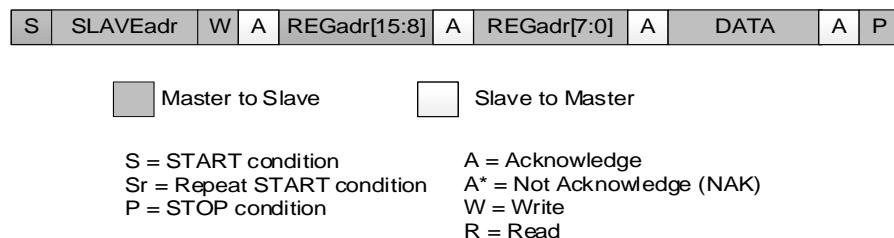

Figure 7: I²C Byte Write (SDA line)
The I²C bus is monitored by DA7400 for a valid slave address whenever the interface is enabled. It responds with an acknowledge (A) immediately when it receives its own slave address. An acknowledge is indicated by the receiver pulling the SDA line low during the clock cycle immediately following the byte transmitted, see Figure 7 to Figure 10.
The protocol for a register write from master to slave consists of a start condition, a slave address with read/write bit and the 16-bit register address followed by eight bits of data terminated by a stop condition (DA7400 responds to all bytes with an acknowledge), see Figure 7.